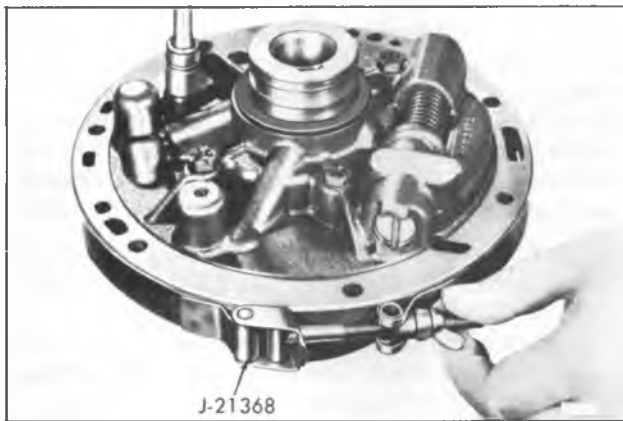

Figure 62—Installing Pump Cover to Pump Body
11. Place pump aligning strap (J-21368), over pump body and cover, and tighten tool (fig. 62).